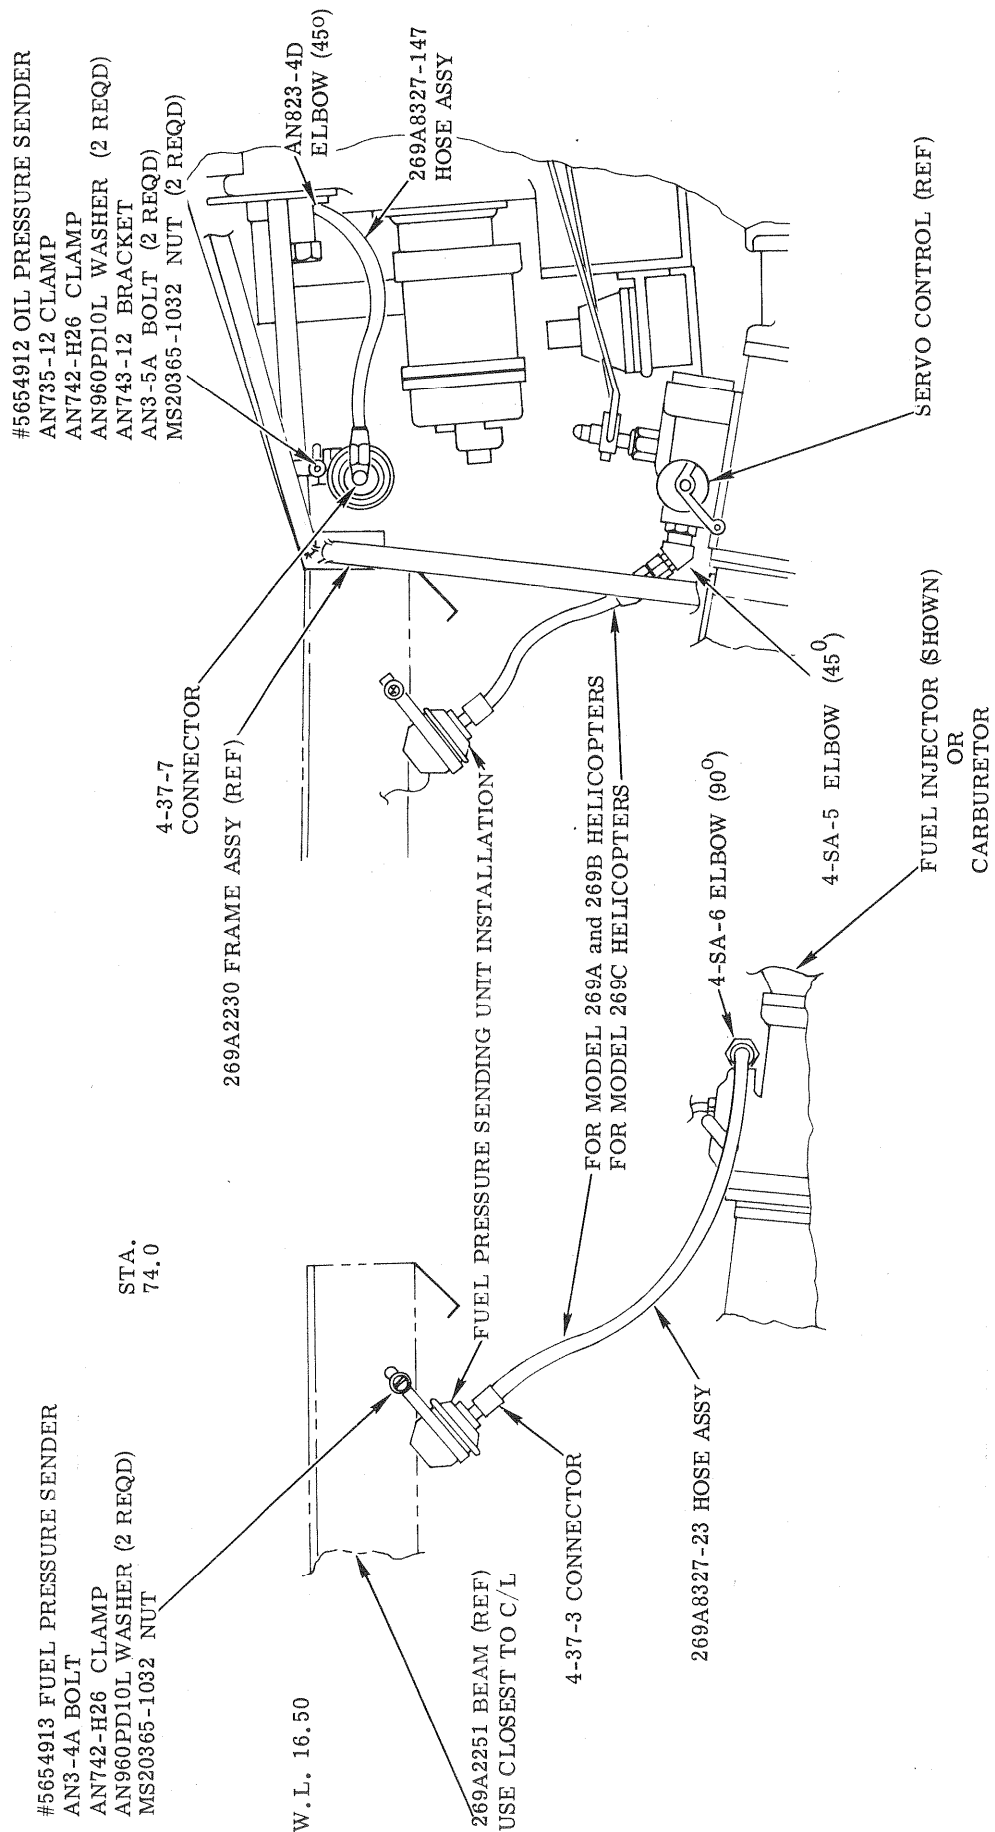

FIGURE 1. RELOCATION - OIL PRESSURE SENDER AND FUEL PRESSURE SENDER
- d. Install oil pressure sender on helicopter frame structure, using clamps, bracket, and attaching hardware as shown in Figure 1. When installing clamp on frame tube, remove existing finish to bare metal to ensure proper ground.
d. Install fuel pressure sender on 269A2251 beam, using clamps and attaching hardware, as shown in Figure 1. When installing clamp on beam, remove existing finish to bare metal to ensure proper ground.